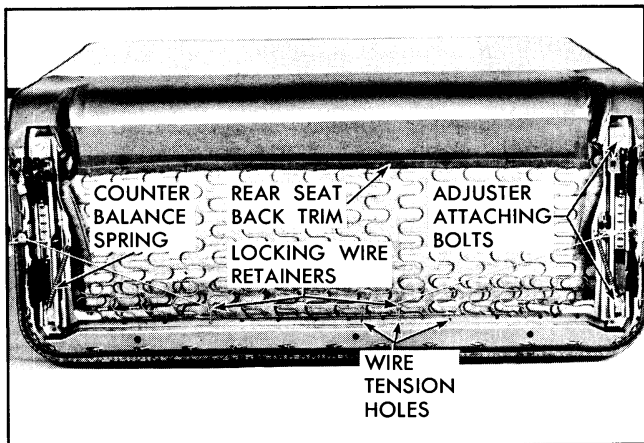

Fig. 18-1 Front Seat Adjuster Removal
2. Remove seat adjuster counter balance spring attached to seat adjuster front support and seat bottom frame as shown in Fig. 18-1.
5. Remove adjuster-to-seat bottom frame front and rear attaching bolts shown in Fig. 18-1 and remove seat adjuster from seat assembly.
7. If right adjuster does not lock or unlock satisfactorily when control handle on left adjuster is operated, disengage locking wire retainer on right side of seat from hole in seat bottom frame and engage retainer in one of adjacent holes to obtain proper tension in wire. (Fig. 18-1)